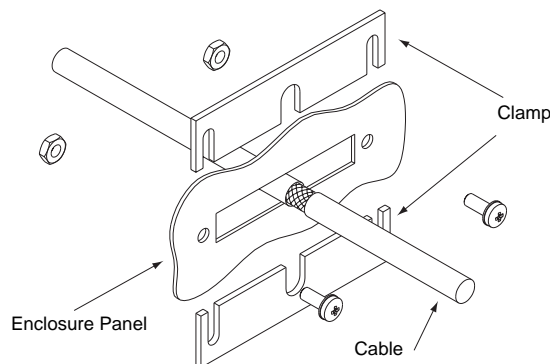
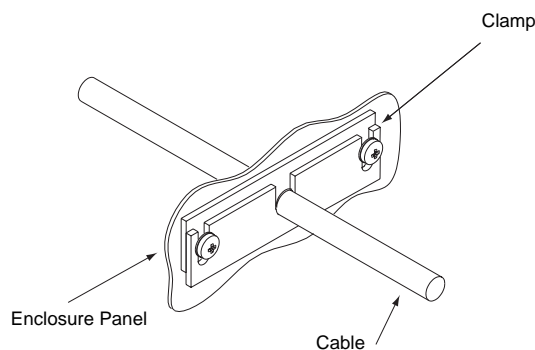

Figure 4a: Installation of clam-shell clamp
Figure 4b. Completed installation of clam-shell clamp
5. Position the two clam-shell clamp pieces around the exposed braid of the high density cable, as shown in Fig. 4a. Fit the center slots of the clamp pieces around the cable, with the clamp pieces overlapping each other, as shown in Fig. 4b. The clamp pieces must make contact with the exposed braid of the high density cable to ensure a good electrical connection.